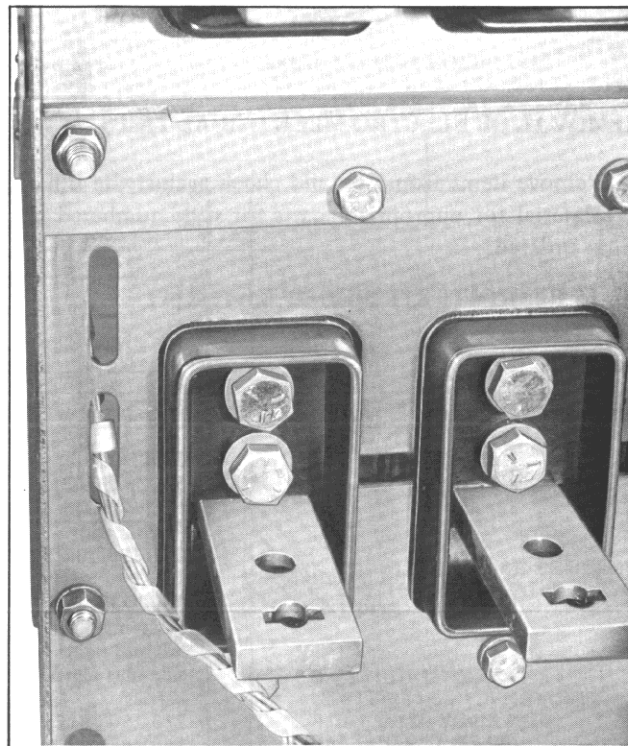

Fig. 12 *Harness Threaded Through Lower Slot
6. Thread the sensor end of the harness through the lower slot in the right side of the breaker frame, viewing breaker from front, Fig. 12.